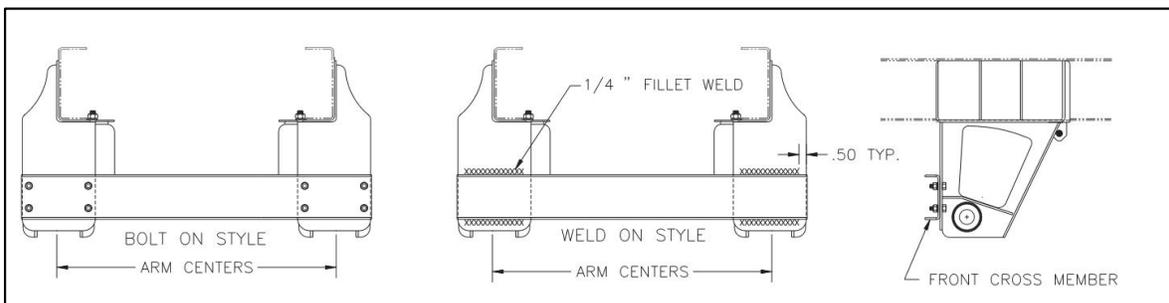

Figure 9
13. Install 0.625" (5/8") SAE Grade 8 fasteners in the remaining frame bracket mounting holes, and torque all fasteners to specification (See **Section 10 Torque Requirements**). Verify that all bolts protrude through the nuts by at least three (3) full threads.
14. Verify the suspension system is properly located, then drill (2) 0.6875" (11/16") diameter mounting holes through each upper air spring plate and the vehicle's frame rails.
15. Install 0.625in (5/8) SAE Grade 8 fasteners in each mounting hole, and snug tighten the fasteners. Verify that the bolts protrude through the nuts by at least three (3) full threads.
17. Install the cross member and torque the cross member fasteners to specification (See **Section 10 Torque Requirements**) or weld the cross member in place as required (See **Figure 9**).